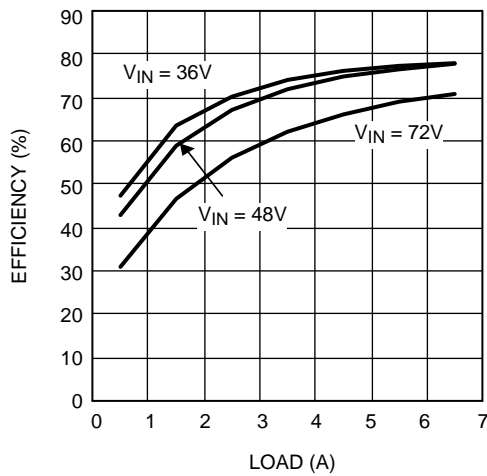
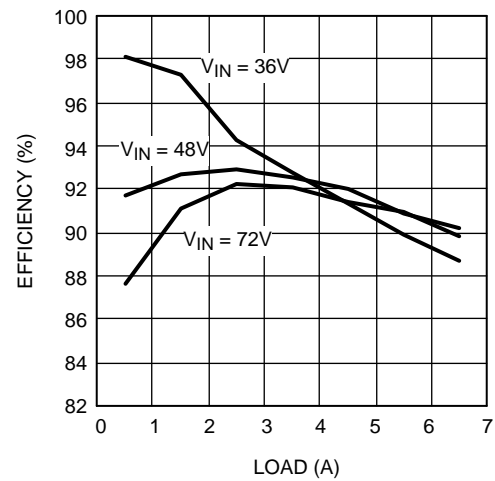

Figure 4. System Efficiency vs. Load Current and V_{IN}
Figure 5. Adjusted Efficiency on Secondary Side vs. Load Current and V_{IN}
1. Power Conversion Efficiency (Figure 4 and Figure 5)